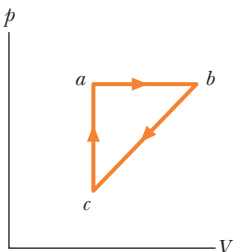

Fig. 18-42 Problem 50.
- 50 A lab sample of gas is taken through cycle $abca$ shown in the p - V diagram of Fig. 18-42. The net work done is $+1.2$ J. Along path ab , the change in the internal energy is $+3.0$ J and the magnitude of the work done is 5.0 J. Along path ca , the energy transferred to the gas as heat is $+2.5$ J. How much energy is transferred as heat along (a) path ab and (b) path bc ?